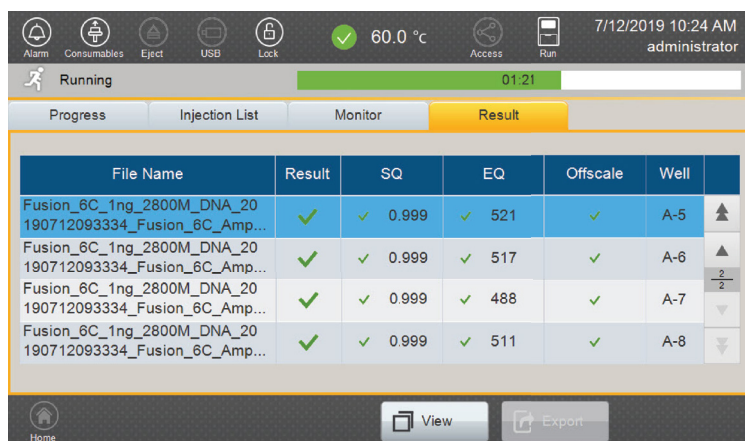
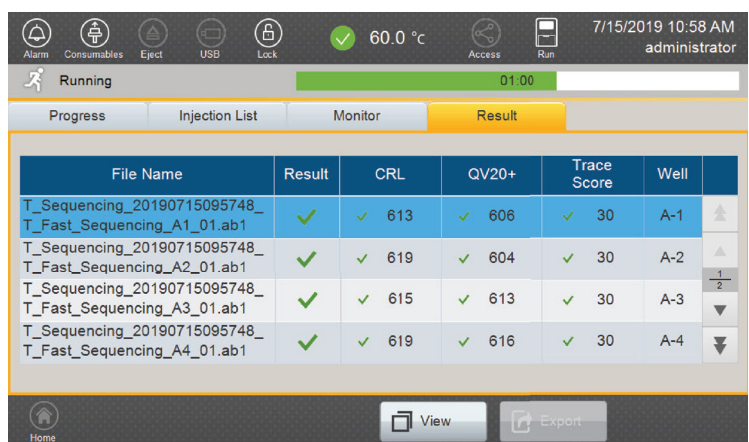

Figure 100. Fragment Analysis 'Result' tab.
Figure 101. Sequencing Analysis 'Result' tab.
Use the scroll buttons on the right side of the list to review the summary results for each sample in the run (Figure 100 and Figure 101).
1. Select the appropriate sample from the review table (Figure 100 and Figure 101), and then select **View** in the footer to open the 'Graph' screen.
1. From the 'Result' tab, select the specific sample from the displayed list (Figure 100 and Figure 101).